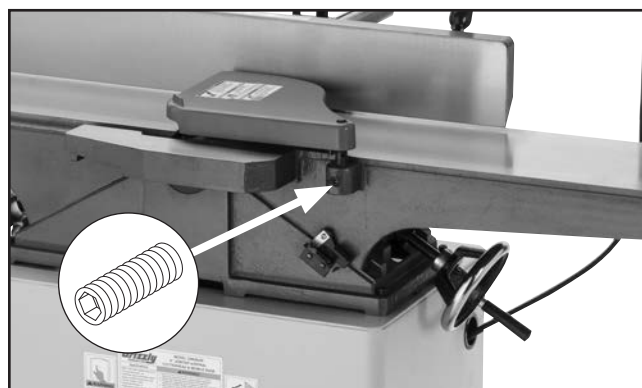

Figure 19. Cutterhead guard installed.
11. Insert cutterhead guard shaft into mounting hole on table, then tighten set screw (see **Figure 19**).